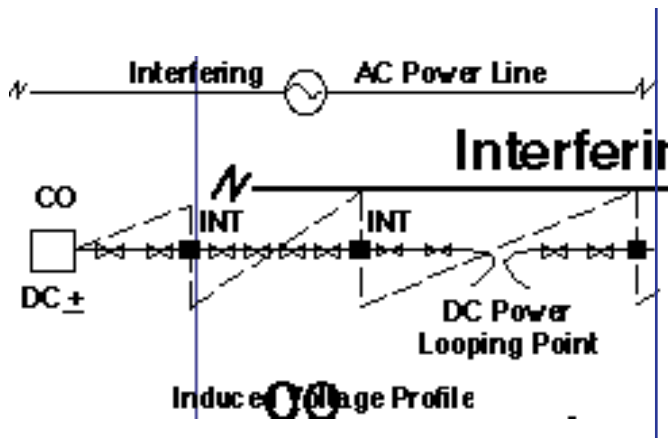

Figure 24: Tandem Digital INT Installation
**13.03** Severe power line interference on a digital carrier route may require several Digital INTs in tandem (Figure 24). This is usually done to keep the maximum voltage-to-ground within safe working values over the entire length of the cable route.